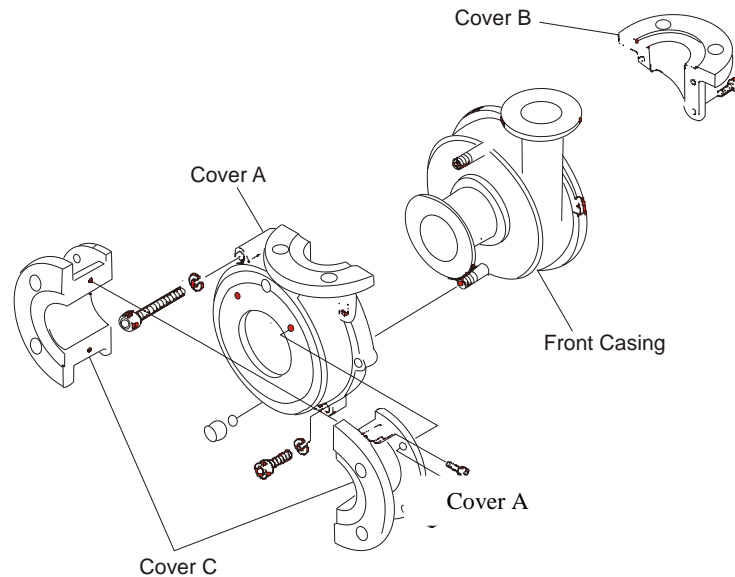

Figure 17
5. Align and install a new front casing liner into cover A, paying attention to the drain port and locating tabs. [Fig. 17] If the front casing liner is difficult to attach, tap it gently with a resin hammer. \*Note: Tapping the back portion of the front casing liner may cause sealing difficulty during reassembly.